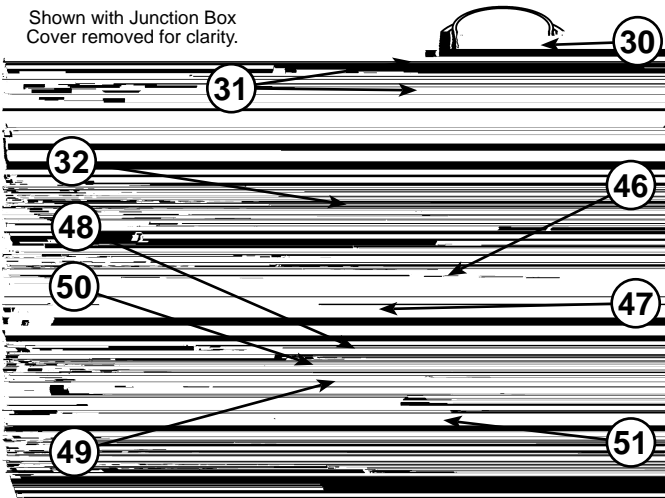

Figure 4.
| 8 Cold-Water Inlet Nipple/Diptube                            | 25 *Gas Supply*  | 46 Air Tubing (Intake) (see Figure 4)                           |
| 9 **Combo Heating System Supply Outlet (Optional)            | 26 Anode (under cap)   | 47 Blower High Limit Switch (see Figure 4)                      |
| 10 T&P Valve   | 27 Baffle Assembly   | 48 Intake Air Pressure Switch (NC) (inside box) (see Figure 4)  |
| 11 * Discharge Pipe  | 28 Hot-Water Outlet Nipple/Anode   | 49 Capacitor (see Figure 4)                                     |
| 12 **Combo Heating System Return Inlet (Optional)            | 29 *Inlet Water Shut-off Valve   | 50 Air Tubing (Exhaust) (see Figure 4)                          |
| 13 Gas Control Valve/Thermostat (Honeywell)                  | 30 ***Rubber Coupling (see Figure 4)   | 51 Exhaust Air Pressure Switch (NO) (inside box) (see Figure 4) |
| 14 Gas Valve Electronic Control Module And Cover (Honeywell) | 31 Gear Clamp (see Figure 4)   |   |
| 15 Drain Valve   | 32 ***Blower with Power Cord (see Figure 4)  | * , ** , *** , **** see notes on following page                 |
This device is located on the blower (see Figure 4, item 47) and limits the maximum temperature of the blower. If the blower temperature rises above the temperature setting, the switch opens causing the heater to shut down.
The blower/heater is equipped with two air pressure switches located in the junction box (see Figure 4, item 48 and item 51). These devices are connected in series and monitor the air pressure produced by the blower. In the event that the exhaust venting becomes blocked or sufficiently restricted, the normally open (NO) air pressure switch will shut down the heater. In the event that the intake pipe becomes sufficiently blocked or restricted, the normally closed (NC) air pressure switch will shut down the heater.